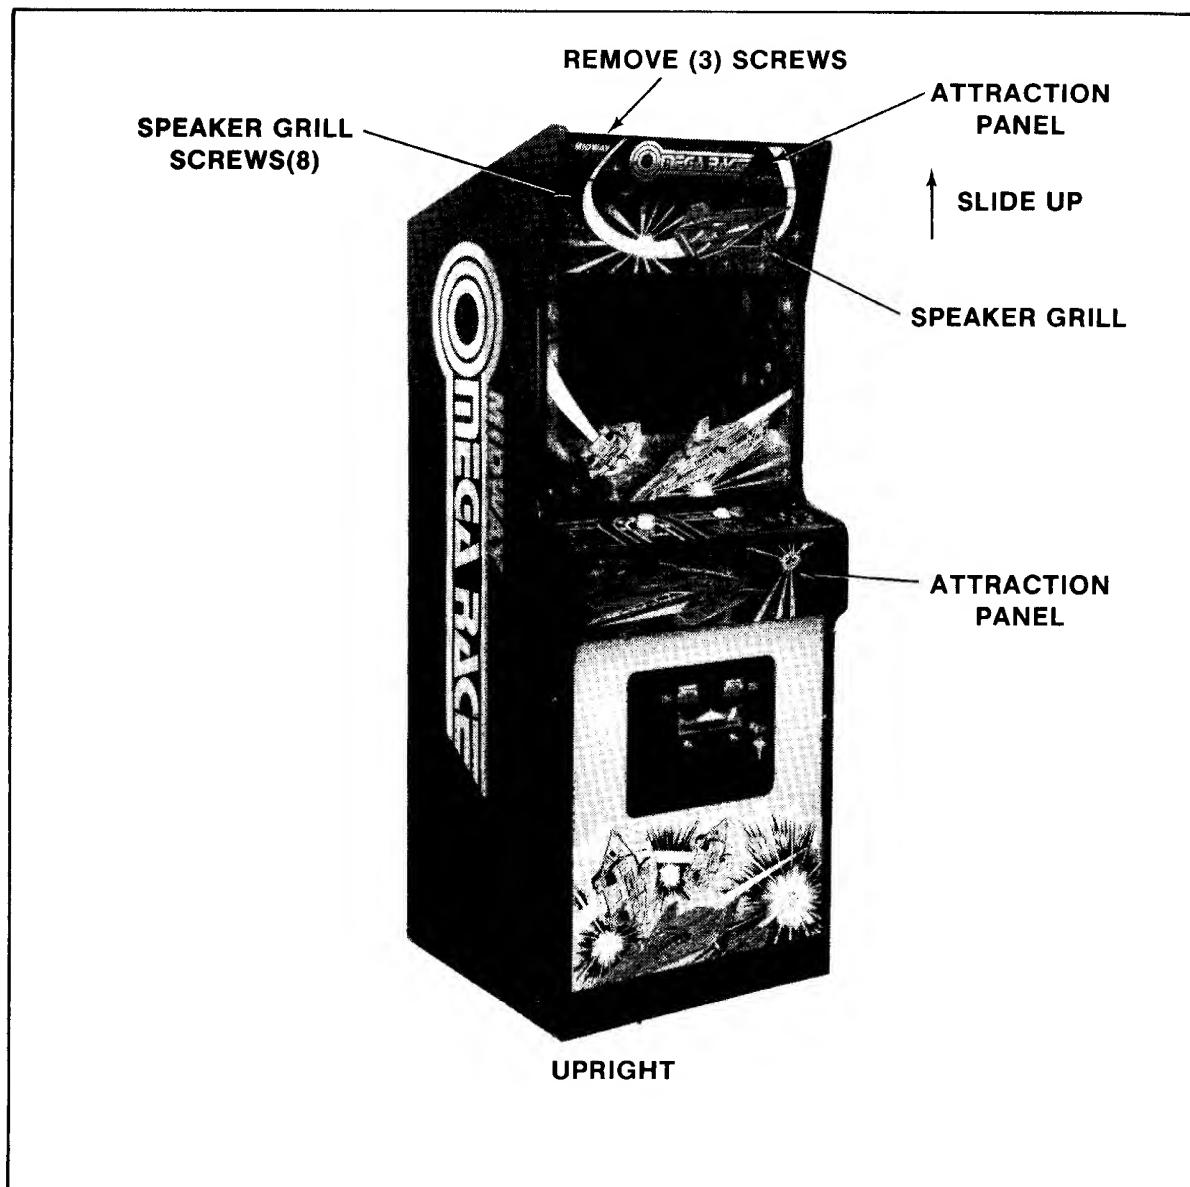

FIGURE 35
- b. Opening the attraction panel at the top of the cabinet — See Figure 35:
c. Replacing the Speakers — See Figure 35: